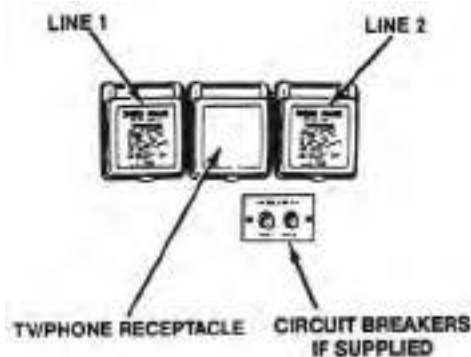

Figure 4-12 – Shore Power Inlets
2. Connect the female end of the 30 amp (yellow) shore power cable to the yacht's Line 1 inlet receptacle. (See **Figure 4-12.**) Make sure the locking ring is tight.